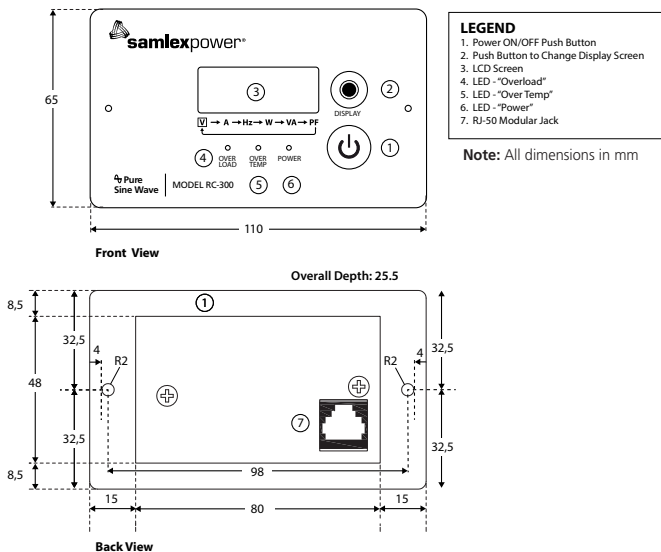

Fig. 1 Remote Control RC-300 - Layout and Dimensional Drawing
- 3.1 Fig. 1 (page 4) shows the layout of controls and indications and dimensional drawing.
- 4.1 Please refer to Fig. 1. The Remote Control can be flush mounted on a wall or a panel by making a suitable cut-out to accommodate the projection in the back.
- 5.1 Switch ON PST-3000-12 / PST-3000-24 using the local ON/OFF Switch on the inverter or using external ON/OFF control provided on the inverter (for details, please refer to Section 8 of Owner's Manual for PST-3000-12 / PST-3000-24 under heading "Optional Wired Remote Control - Model RC-300). Once the inverter turns ON, the operational status of the inverter will be displayed through the LCD screen (3, Fig 1) and LEDs (4, 5, 6; Fig 1).
- 5.3 The output of the inverter can be switched ON/OFF using the ON/OFF Push Button (1, Fig 1).